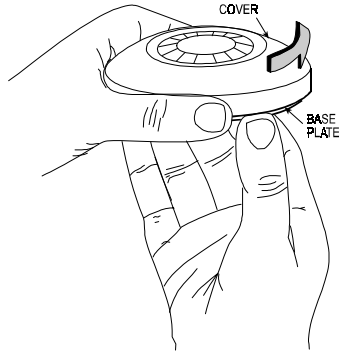

Figure 2. Separating the Cover from the Base
A. Hold the base with one hand as shown in Fig. 2. Twist the cover counter-clockwise with the other hand until it stops. Separate the cover from the base, and put it in a safe place, to avoid accidental damage.